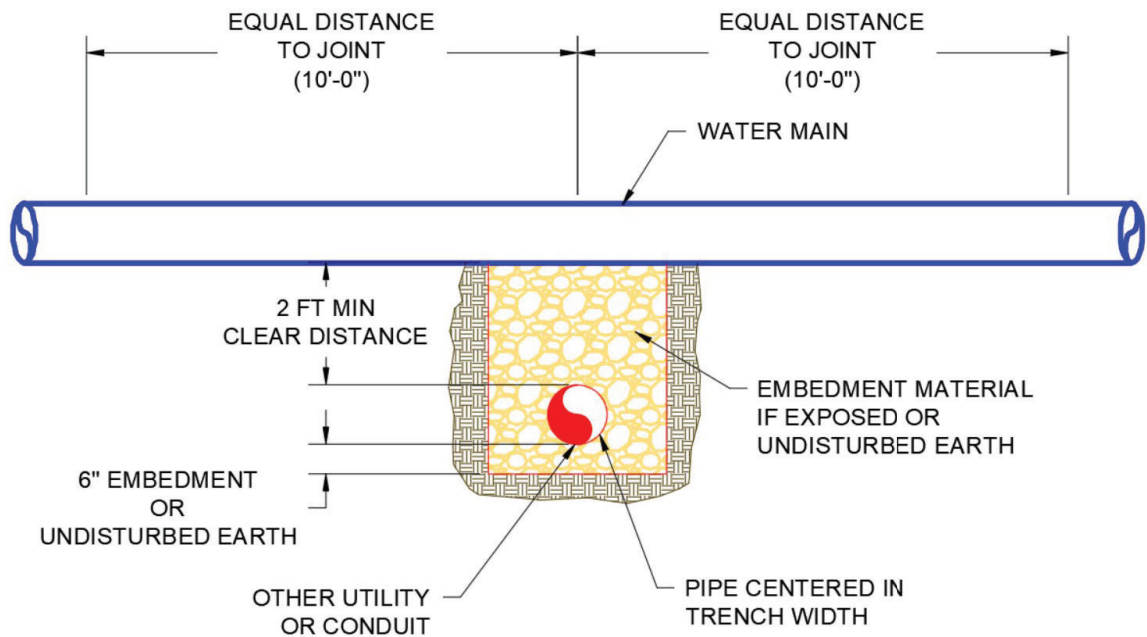

Figure 4- Water Crossing
- 3.13. Water mains crossing wastewater mains must provide a minimum vertical separation distance of at least two (2) feet between the water main and the wastewater main and at least two (2) feet between the water main and all other utilities. All design drawings must show and indicate this minimum clear distance. Design must arrange piping so that joints in a twenty (20) feet length of the water main will be equidistant from the wastewater main crossing or other utility crossings. Embedment material or Type-A aggregate is required under each crossing pipe and below the water main. This requirement must be indicated and labeled on all design drawings submitted for review and approval. Distance must be measured from outside edges of pipes, see Figure 4.